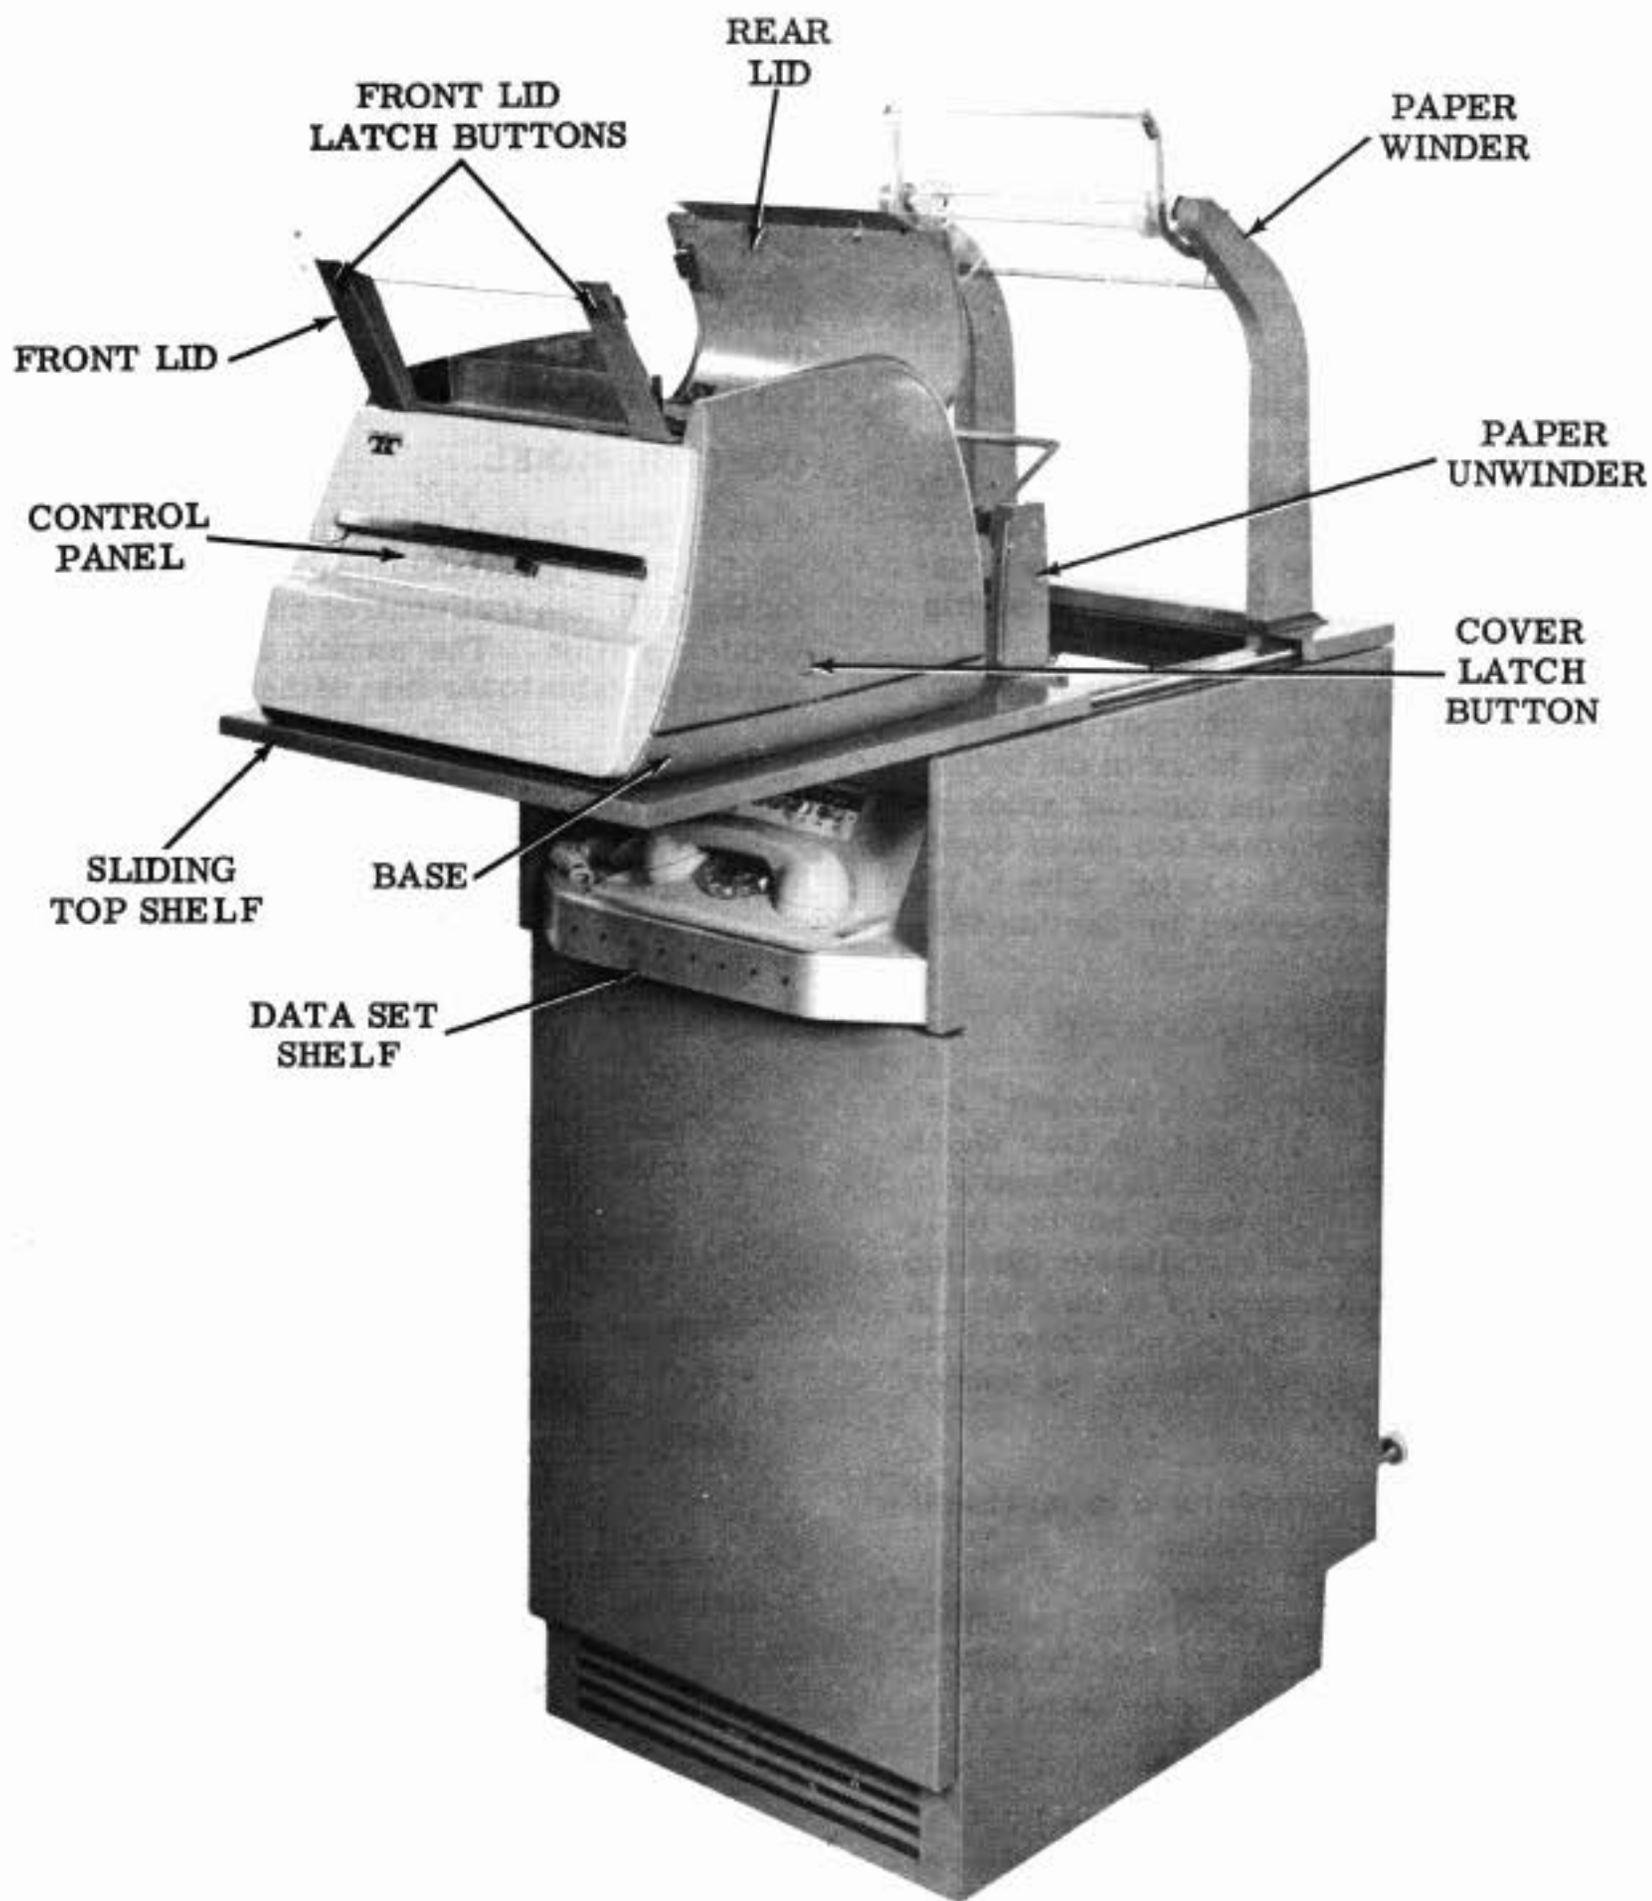

Figure 2 - INKTRONIC Page Printer (RO) With Data Set Shelf for 202C Data Set or 804A Data Auxiliary Set, Top Shelf Extended, and Cover Lids Raised
winder. Open the front and rear lids of the cover by pressing inward on the latch buttons on both ends of the front lid. The front lid will spring upward, releasing the rear lid, so that both lids may be opened (Figure 2). Unlatch the idler roller assembly, raise the paper tensioner idler rollers, and place the paper pressure roller arm in its OPEN position. The paper can then be removed from the transport by pulling it up out of the cover lid.
2.21 If the printer has a shelf for a 202C data set or 804A data auxiliary set (Figure 2), the shelf can be removed as follows: